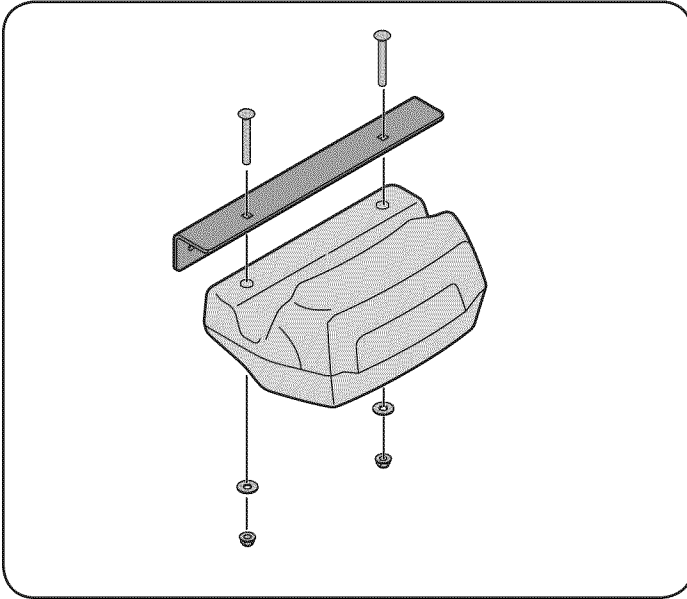
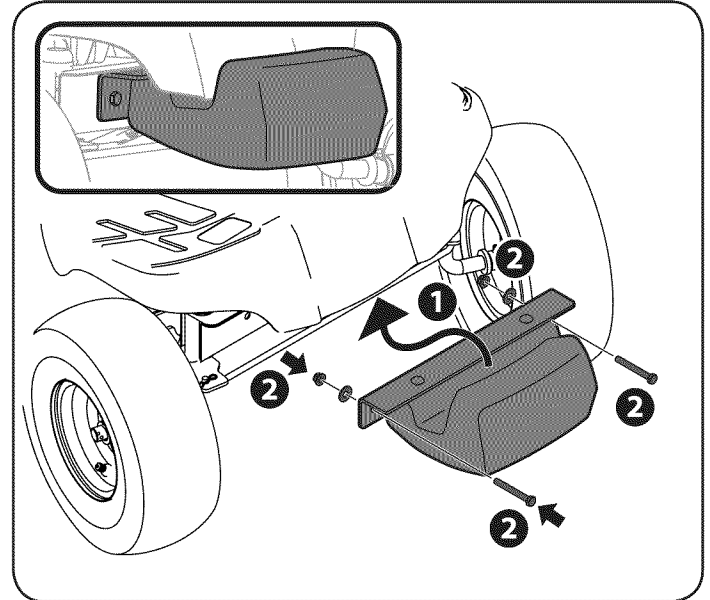

Figure 8
Figure 10
Assemble, then attach the counter-weight to the front steering assembly using the hardware in pack 683-05063, as shown in Figure 8 and Figure 10.
1. Install the counter-weight mounting bracket to the counter-weight using two 710-0572 carriage bolts, two 736-0159 flat washers and two 712-04063 flange lock nuts from hardware pack 683-05063. See Figure 8.